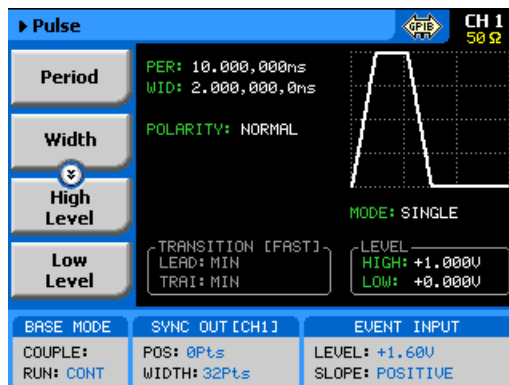

Figure 3-69, User-composed Pulse Patterns Menu
1. Push the Pulse button in the Function group keys. The pulse dialog box, as shown in Figure 3-69 will be displayed.